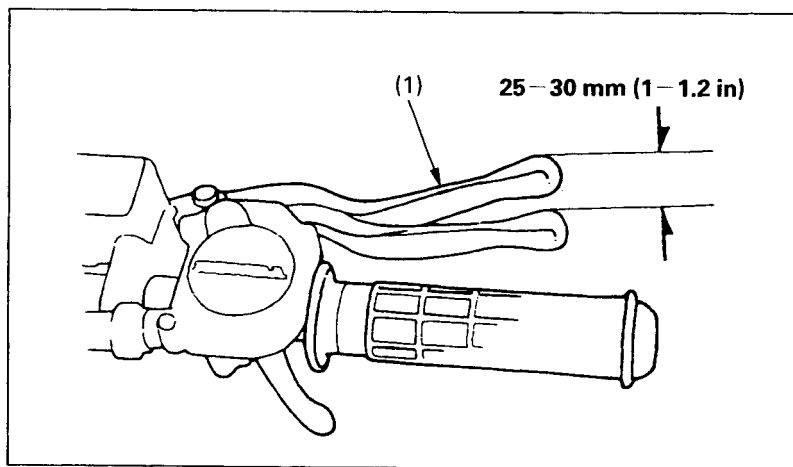

Fig. 4-20
1. Measure the distance the brake lever (Fig. 4-20) moves before the brakes start to take hold. Free play, measured at the tip of the front brake lever (1) should be: